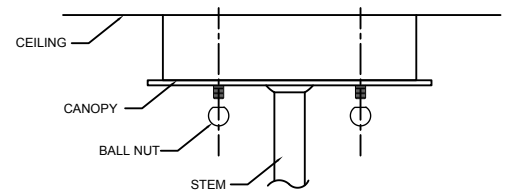

FIGURE-03
- Pull up & attach the canopy to the mounting strap and secure it with ball nuts. (See Figure-03)